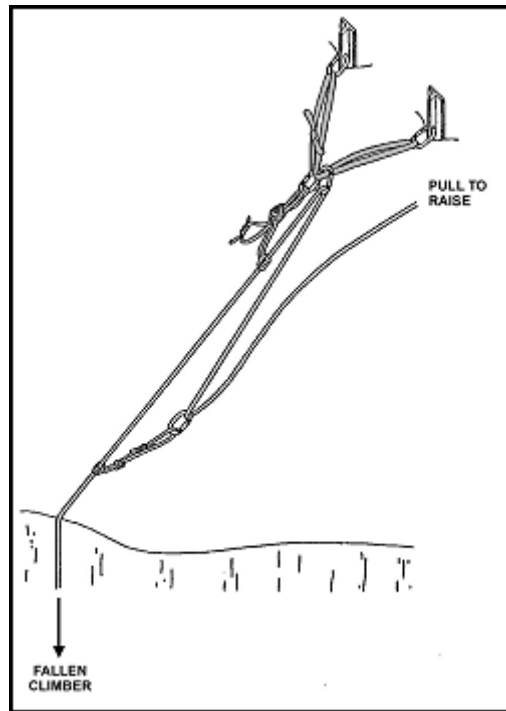

Figure 10-27. Z-pulley hauling system.
(4) **Z-Pulley Hauling System.** If a fallen climber is injured or unconscious, he will not be able to offer any assistance in the rescue. If additional rope teams are not immediately available, a simple raising system can be rigged to haul the victim out of the crevasse. The Z-pulley hauling system is one of the simplest methods and the one most commonly used in crevasse rescue (Figure 10-27). The basic Z rig is a "3-to-1" system, providing mechanical advantage to reduce the workload on the individuals operating the haul line. In theory, it would only take about 33 pounds of pull on the haul rope to raise a 100-pound load with this system. In actual field use, some of this mechanical advantage is lost to friction as the rope bends sharply around carabiners and over the crevasse lip. The use of mechanical rescue pulleys can help reduce this friction in the system. The following describes rigging of the system. (This scenario is for a team of three, each person referred to by position; the leader is number 1.)